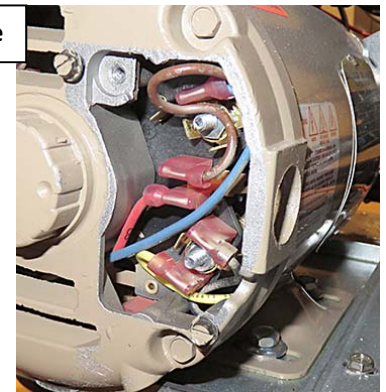

Figure 53
51. Use a screwdriver or pliers to remove the conduit nut and disconnect the conduit from the motor (see Figure 53).